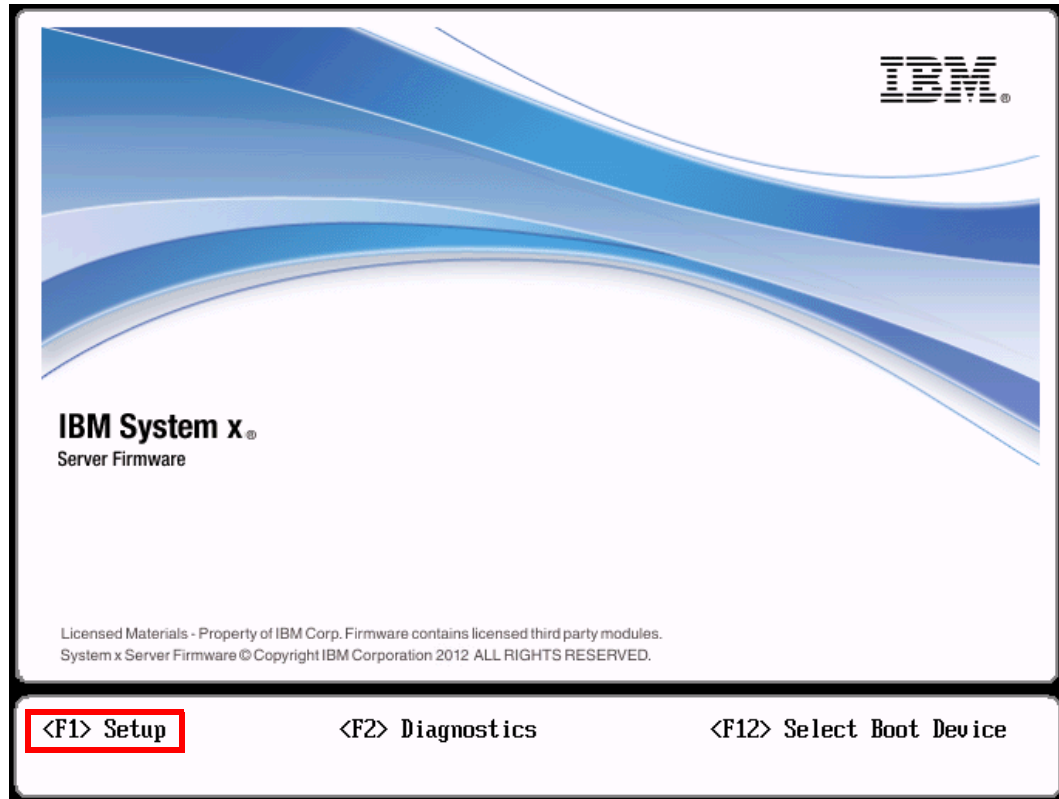

Figure 2-27 F2 option to enter setup
1. Power on the system and press F1 when the UEFI window opens, as shown in Figure 2-27.